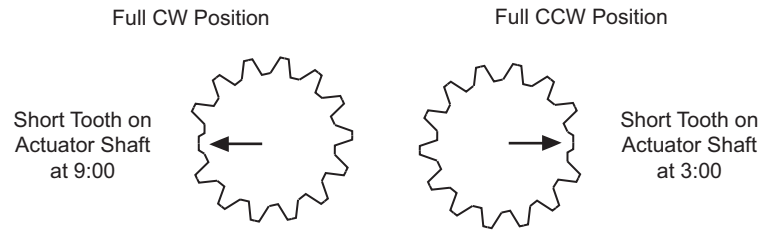

Figure-3 Actuator Shaft Position (Front View).
5. Position the actuator to the 3:00 (CW) or 9:00 (CCW) position so that the cam is pointing up or down as required. Use Figure-3 and Table-4.